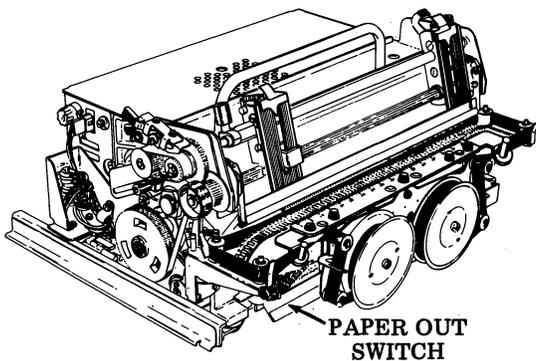

Fig. 9—Paper Out Switch (Tractor Feed Printer)
F. Paper Out/Low Paper Switch (Fig. 9)